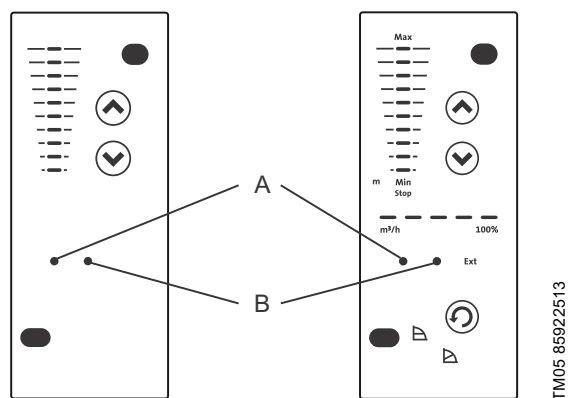

Fig. 85 Position of indicator lights
The operating condition of the pump is indicated by the green (A) and red (B) indicator lights on the pump control panel and inside the terminal box. See fig. 85.